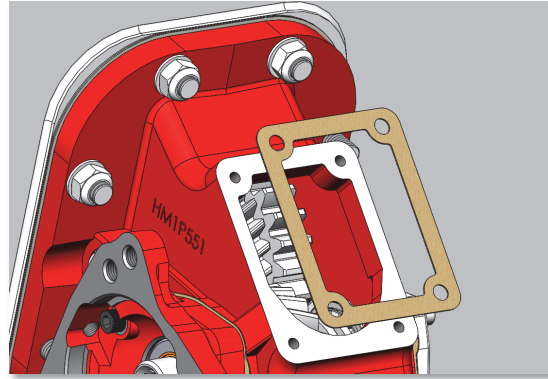

Fig. 8
1. Place the shift cover gasket on the PTO aperture (Fig. 8).